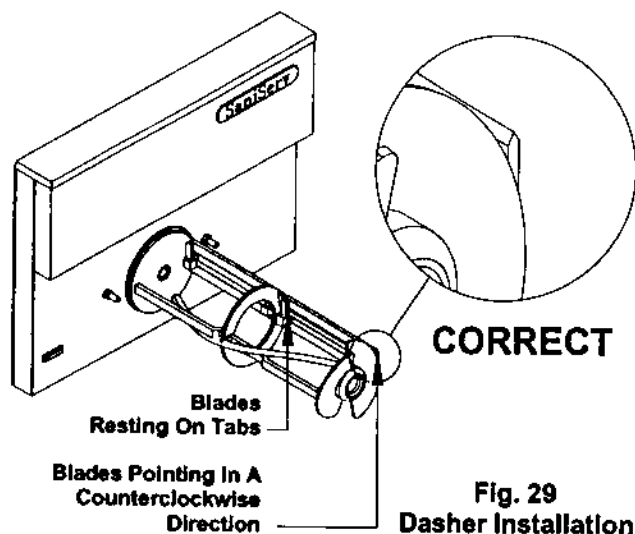

**Fig. 27**
- f. Install the scraper blades onto the dasher assembly by holding the blades perpendicular to the tabs (Fig. 26) and then snapping them over the flat area of the support rod. Then rotate the blades downward in a counterclockwise direction as viewed from the front of the dasher (Fig. 27). **BE CERTAIN THAT THE SCRAPER BLADES REST UPON THE DASHER TABS ON ALL DASHERS EXCEPT HIGH CAPACITY MACHINE DASHERS. THOSE BLADES REST UPON PINS.**